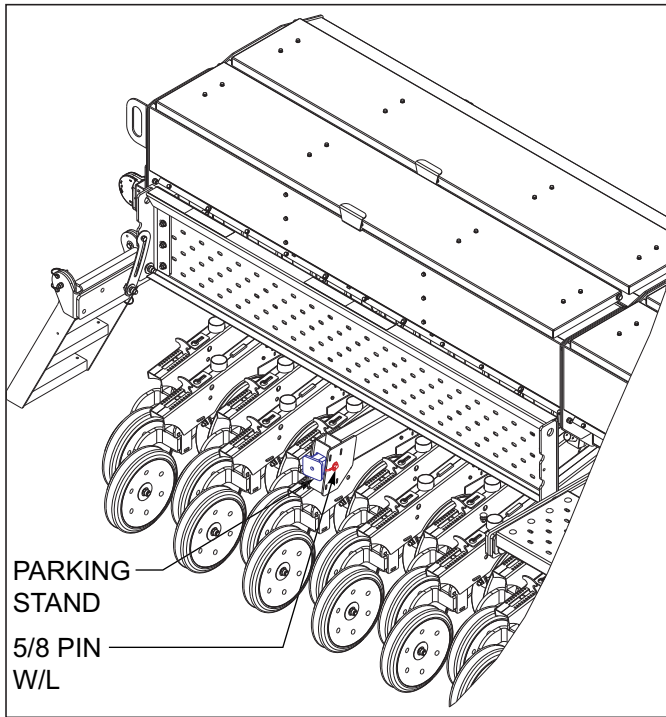
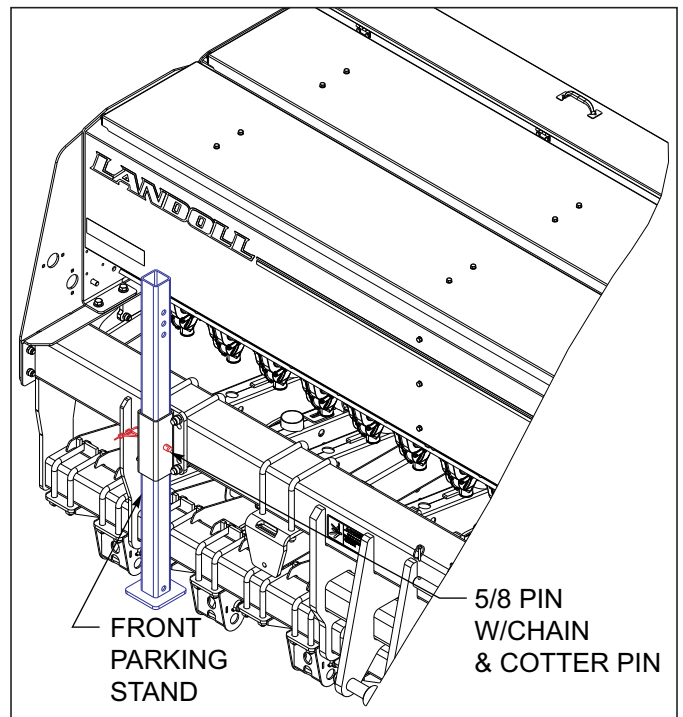
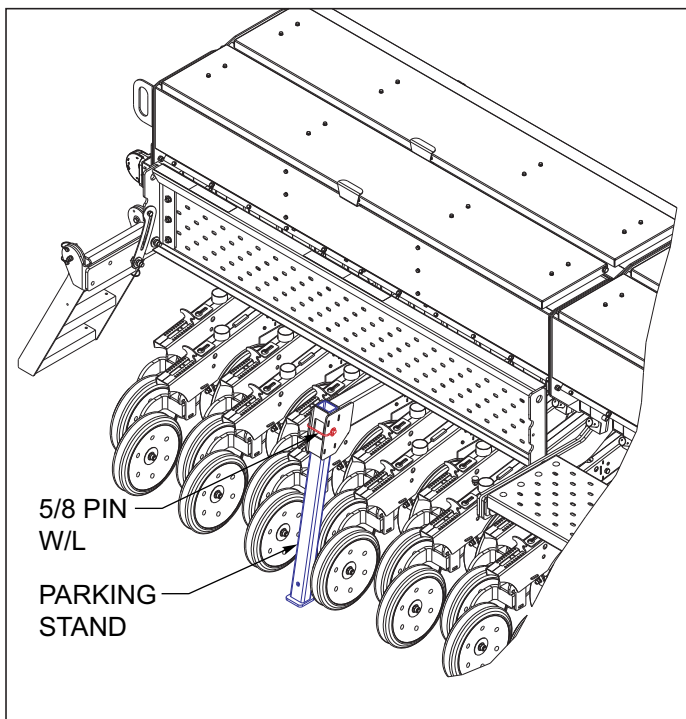
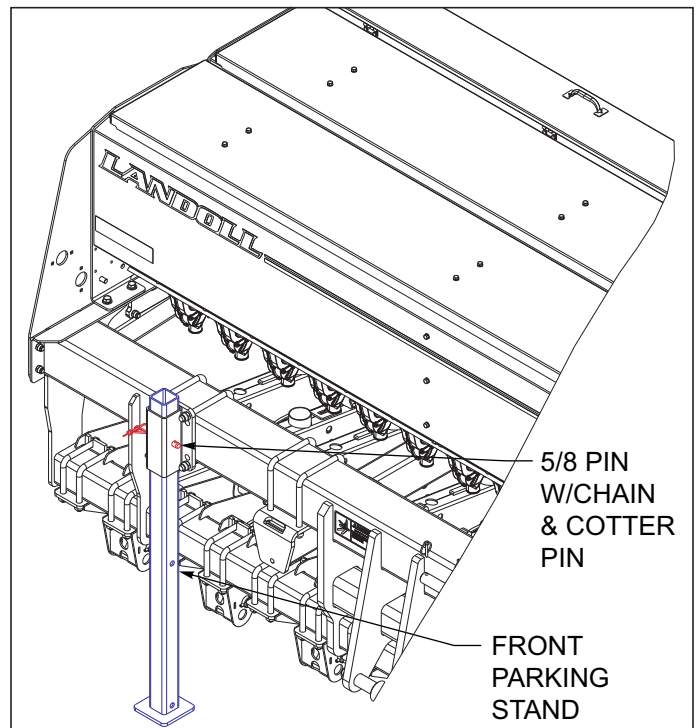

Figure 4-2: Rear Parking Stand Location During Transport/Planting
Figure 4-4: Front Parking Stand Location During Transport/Planting
Figure 4-3: Rear Parking Stand Location During Storage
Figure 4-5: Front Parking Stand Location During Storage
8. Fully raise the Grain Drill and remove both rear parking stands and place in transport position *See Figures 4-2 and See Figure 4-3.*
9. On the 5110-12-1/2' drills fully raise the Grain Drill and adjust both front parking stands and place in transport position *See Figures 4-4 and See Figure 4-5.*
9. Fully raise the Grain Drill and install the transport locks. Place parking stands in Transport/Planting position See Figures 4-2 and See Figures 4-4.
- c. Remove both rear parking stands (**5110-12-1/2' & 5110-15'**) from transport position and install in parking position *See Figures 4-2 and See Figure 4-3*. If storing on soft ground, place board/plate under the stands for a wider footprint.
- d. Adjust both front parking stands (**12-1/2' model only**) from transport/planting position to storage position *See Figures 4-4 and See Figures 4-5*.